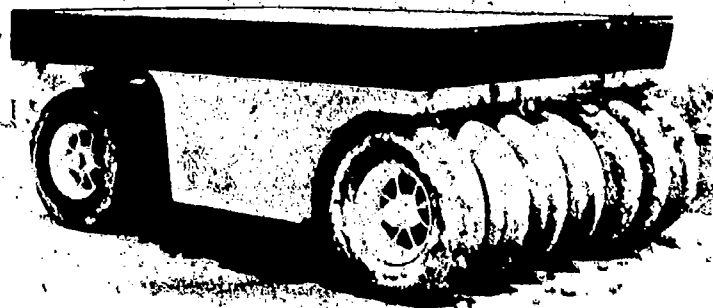

Fig 1-12. Pneumatic-tired roller.
- (2) Pneumatic-tired roller (fig 1-12). The 13-wheel rubber-tired roller consists of a steel box mounted on rubber-tired wheels. There are seven wheels at the rear and six in the front, so arranged that the rear wheels do not track the front wheels. It is also called "wobble-wheel" roller because the wheels do not run true but wobble from side to side. The tires do not have any tread; even new tires are smooth. The open top steel box may be filled with ballast material for additional weight.